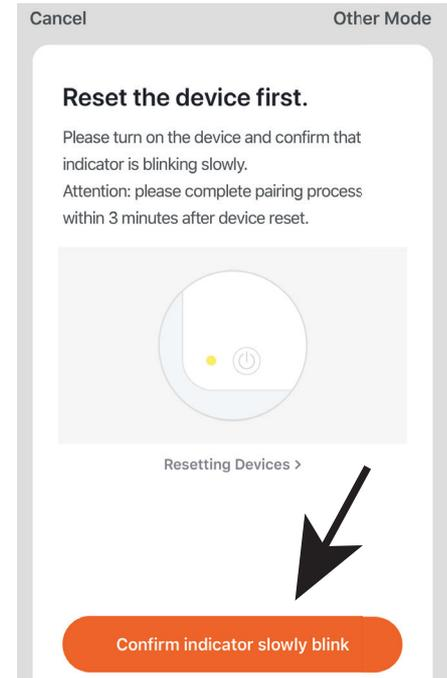

Fig 10
3. Ensure the Wi-Fi light is blinking slowly and tap on “Confirm indicator slowly blink” (Fig 10)